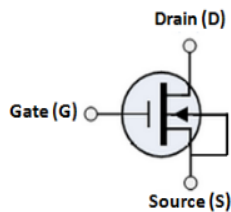

Fig. 4.17 Symbol for n-channel D-MOSFET
- The substrate is connected to the source as shown in Fig. 4.17. This gives rise to a three terminal device.